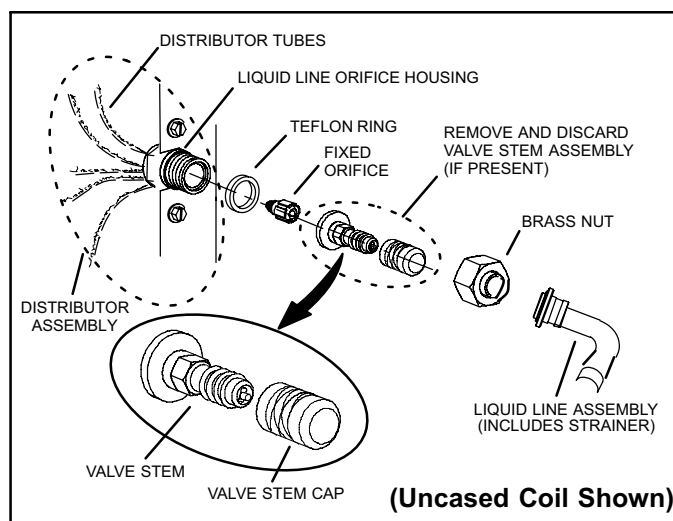

Figure 20. Typical Fixed Orifice Removal
4. Remove and discard fixed orifice, valve stem assembly if present and Teflon ring as illustrated in figure 20.